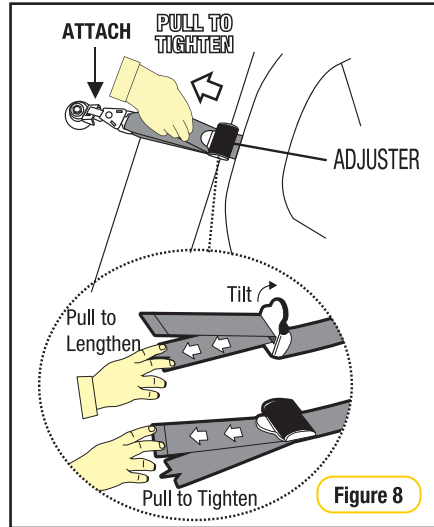

Figure 8
Step 6: Pull to tighten to remove all the slack, from the upper anchorage strap. Do not overtighten as this could cause the restraint to lift off the vehicle seat (Refer to Figure 8).